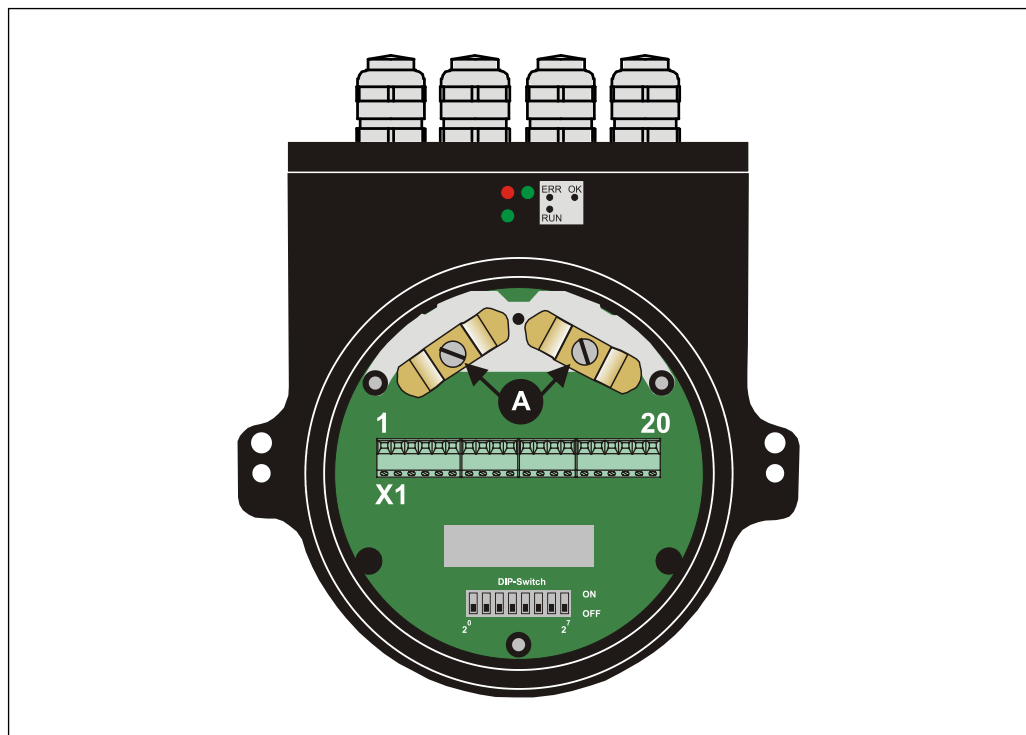

Figure 6: Connection cap with shield clampings
- Ensure continuous wiring of the shield and a large contact area on special shield clampings, see Figure 6 point **A**.